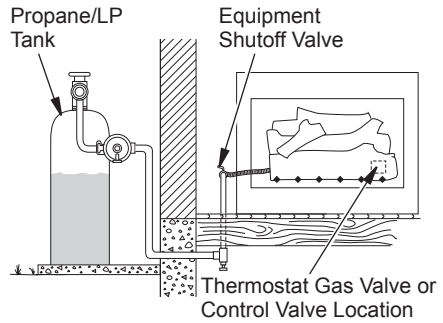
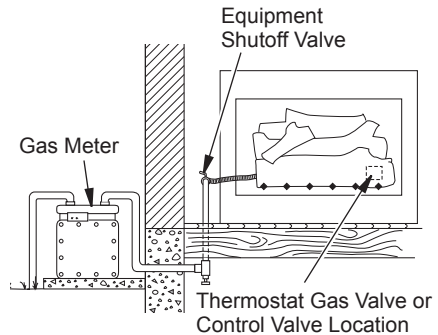

Figure 16 - Checking Gas Joints
Figure 17 - Checking Gas Joints
3. Check all joints from propane/LP supply tank to equipment shutoff valve for propane/LP gas (see Figure 16) or from gas meter to equipment shutoff valve for natural gas (see Figure 17). Apply noncorrosive leak detection fluid to gas joints. Bubbles forming show a leak.
4. Check all joints from propane/LP supply tank to equipment shutoff valve for propane/LP gas (see Figure 16) or from gas meter to equipment shutoff valve for natural gas (see Figure 17). Apply noncorrosive leak detection fluid to gas joints. Bubbles forming show a leak.